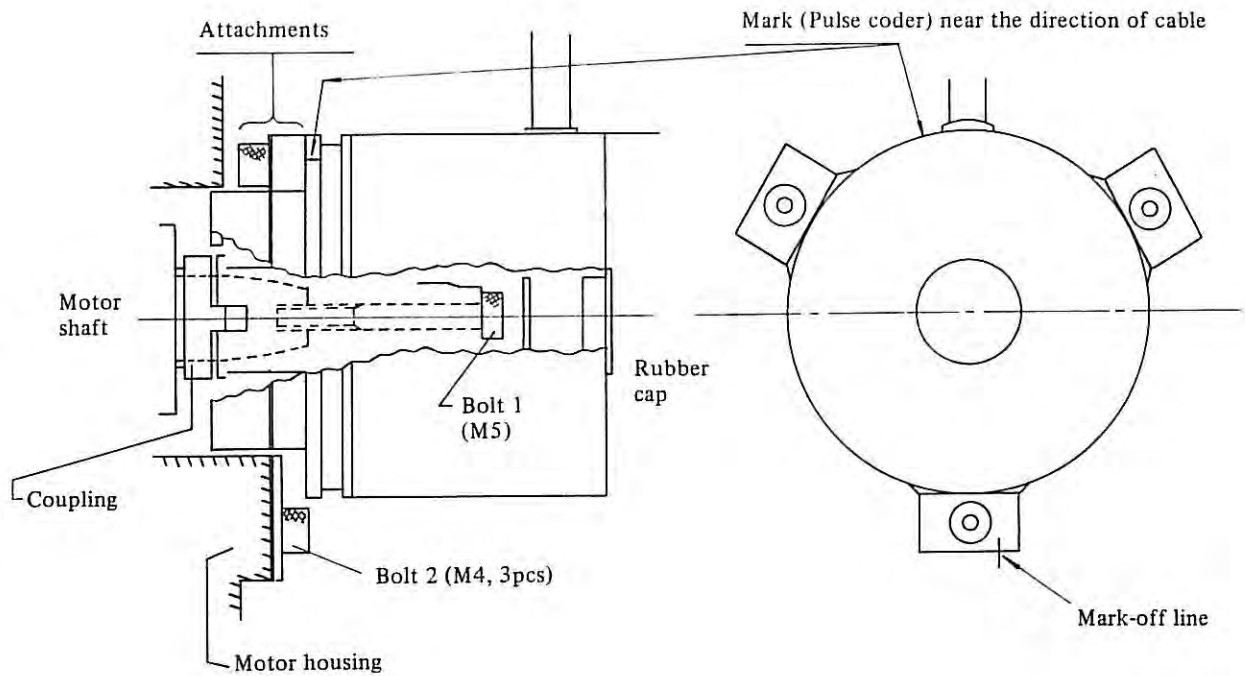

Fig. 1
- a. Remove defective pulse coder. (see Fig. 1)
- ① remove rubber cap.
- ② unfasten bolt 1.
- ③ unfasten bolt 2.
- ④ remove pulse coder (+attachments) from the motor shaft.
- ① mount pulse coder (+attachments) on the motor shaft. Notice that both a tooth (of coupling) and a groove (of pulsecoder) are just fitted together. Care should be taken, for fitting length is short.
- ② connect both shaft by bolt 1.
- ③ adjust marking-off line between attachments of pulse coder and motor housing.
- ④ fasten bolt 2.
(3) The way of checking the phase-relationship